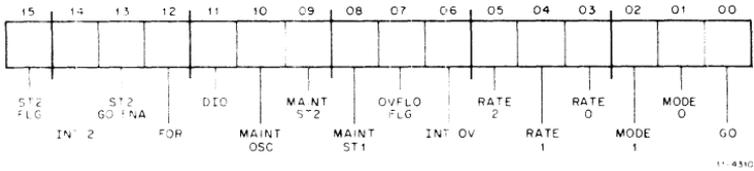

Figure 6 CSR Bit Assignments
**CSR Bit Assignments** – CSR bit assignments are identified in Figure 6 and defined in Table 2.